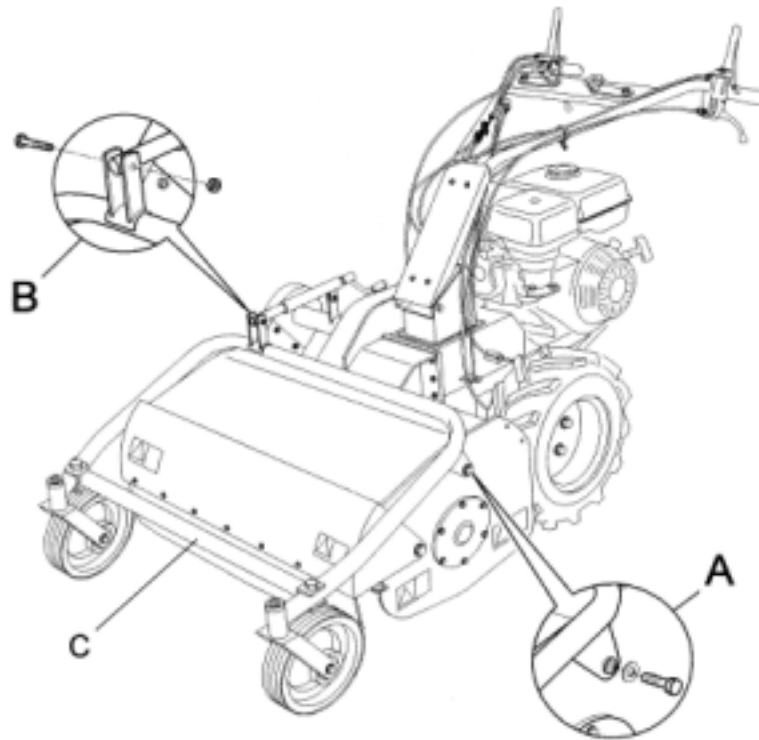

Fig. 3
- Position the front support with front wheels and connect the height adjustment piece (Fig. 3 ref. B) using the screw and washer provided. Fix it to both sides of the bonnet as well using the screws, washers and spacers provided, as shown in Fig. 3 ref. A.
- Fix the safety bar (Fig.3 ref. C) to the special holes on the two front sides of the wheel support using the screws, washers and nuts provided.